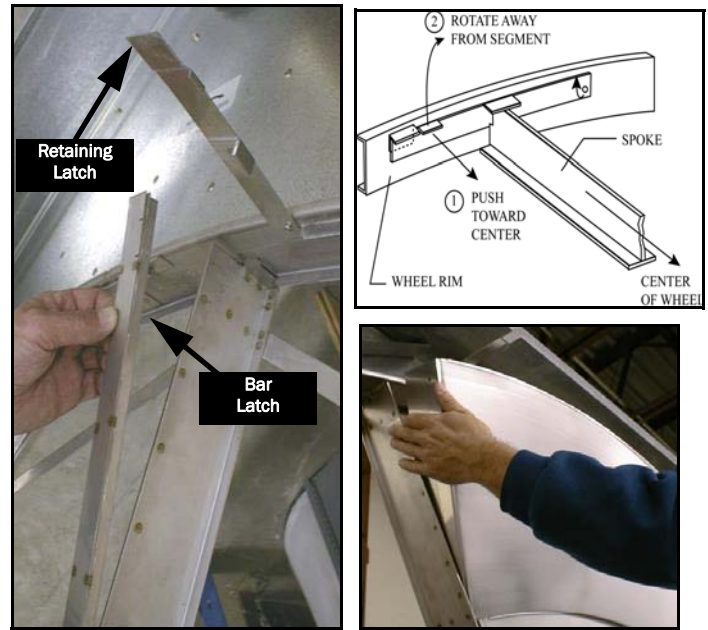

Figure 24 Release retaining latches (following steps 1 and 2 in diagram) and bar latches.
- 4 Use a flathead screwdriver to unlock and open the two segment retaining latches at the top corners of the satellite segment, Figure 24. **BE CAREFUL NOT TO BEND SEGMENT FRAME OR WHEEL RIM.**
- 5 Remove and set aside the bar latches on each side of the satellite segment, Figure 24.
- 6 Remove satellite segment by sliding top end of segment out before the bottom, Figure 24. A flathead Screwdriver may be used in the corners to aid in removal.
- 7 Close the retaining latches, Figure 24.
- 5 Install the corresponding satellite segment by placing the bottom end into position first, then the top end, Figure 24.
- 6 Press straight in against all four corners to fully engage, Figure 24. A sharp rap with heel of hand on segment corners will assist entry when needed.
- 9 When all segments are installed, open the retaining latches of one segment bay at a time to install bar latches on each side of the satellite segments, Figure 24.
- 10 Install each bar latch and reengage the corresponding retaining latch, Figure 24.